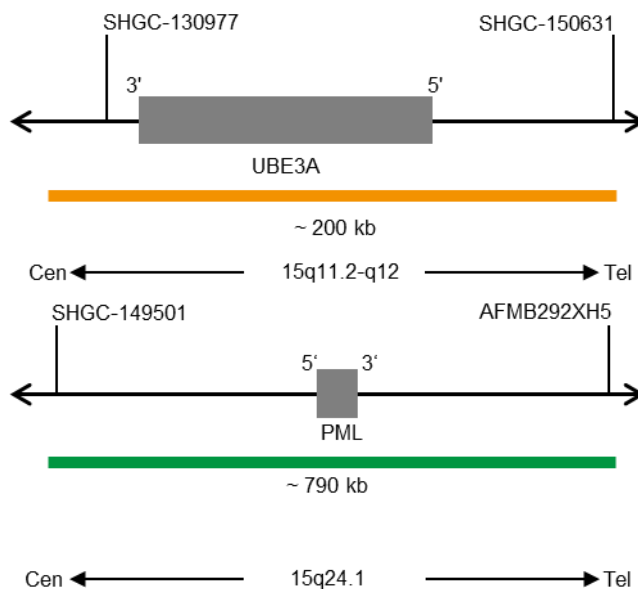

Fig. 1: Top: SPEC UBE3A Probe map; Bottom: SPEC PML Probe map (not to scale)
- ZyOrange (excitation 547 nm/emission 572 nm) labeled polynucleotides (~4.5 ng/μl), which target sequences mapping in 15q11.2-q12* (chr15:25,550,004-25,748,900) harboring the UBE3A gene region (see Fig. 1).
- ZyGreen (excitation 503 nm/emission 528 nm) labeled polynucleotides (~10.0 ng/μl), which target sequences mapping in 15q24.1* (chr15:73,910,690-74,699,298) harboring the PML gene region (see Fig. 1).